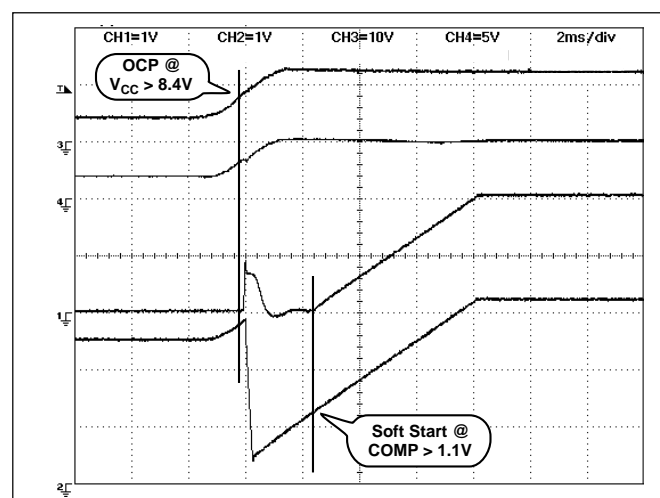

Figure 10: Startup with COMP pre-charged to 2V (2ms/div).
If the voltage across the Current Sense resistor generates a voltage difference between the  $V_{FB}$  and  $V_{OUT}$  pins that exceeds the OVC Comparator Offset Voltage (86mV typical), the Fault latch is set. This causes the COMP pin to be quickly discharged, turning off GATE(H) and the upper NFET since the voltage on the COMP pin is now less than the 1.1V PWM comparator offset. The Fault latch is reset when the voltage on the COMP decreases below the Discharge threshold voltage (0.25V typical). The COMP capacitor will again begin to charge, and when it exceeds the 1.1V PWM comparator offset, the regulator output will Soft Start normally (see Figure 10).